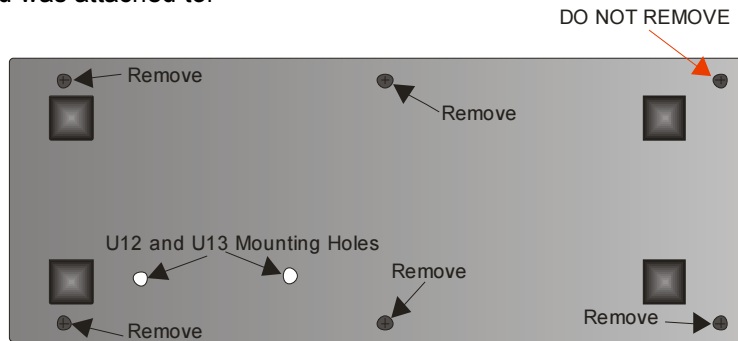

Figure 4
12. Start reassembly of the K3 by reinstalling the right side panel by installing the 4-40x3/16 screws removed in step 6 (see Figure 4).